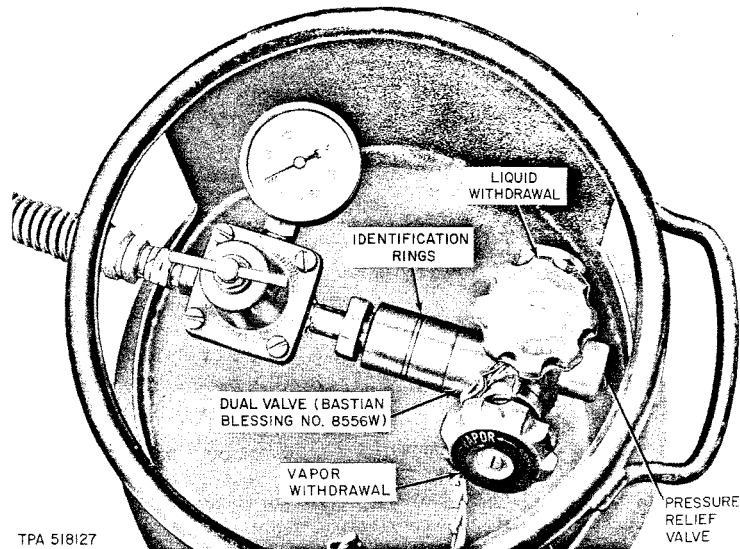

Fig. 2—D or E LP-Gas Cylinder
Bastian-Blessing No. 8556WD for D Cylinders and No. 8556WE for E Cylinders, supplied with all new cylinders. The "W" series valves (Fig. 2) are designed having excess flow control for both vapor and liquid sides, whereas the "B" valve provided the excess flow check valve only on the liquid side. The new valves are marked with two circumferential rings cut into the cylindrical portion of the valve near the outlet to distinguish them from the early type valve.
**2.06** The pressure relief valve (Fig. 2) is a device designed to protect the cylinder from dangerously high pressures. Fuel is retained at normal pressures but the valve opens in the event of excessive pressure. Excessive pressures may occur as a result of either overheating or overfilling. Measures must be taken to ensure the proper functioning of relief valves. They are mounted to come in contact with the vapor space of the cylinders when the cylinders are in a vertical position. *When these cylinders are not in a vertical position, the proper functioning of the pressure relief valve may be prevented. It is therefore necessary that these cylinders be maintained in a vertical position at all times.*